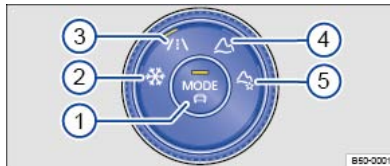

Fig. 129 In the lower section of the centre console: control for the 4MOTION Active Control in vehicles with all-wheel drive.
Key to  **Fig. 129** :
- Turn the control for the 4MOTION Active Control until the LED next to the desired driving profile lights up  **Fig. 129** .
- Press the  driving profile selection button or turn the control for 4MOTION Active Control until the LED next to the **Onroad** driving profile $\Rightarrow$ *Fig. 129 ③* lights up.
- If necessary, turn the control $\Rightarrow$ *Fig. 129* for the 4MOTION Active Control until the LED next to the **Off-road Individual** driving profile $\Rightarrow$ *Fig. 129 ⑤* lights up.
- If the **Off-road Individual** driving profile is already selected, press the MODE button on the control $\Rightarrow$ *Fig. 129* .